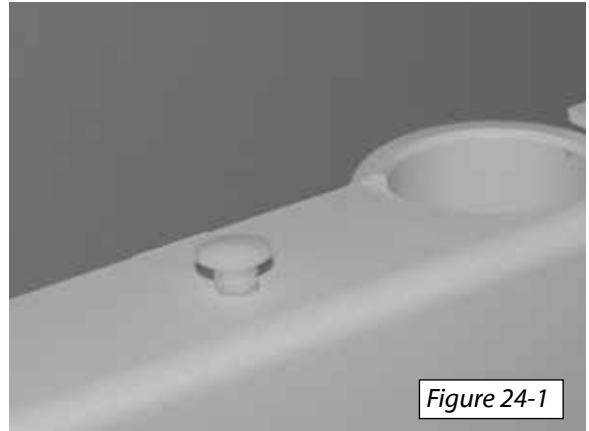

Figure 24-1
4. Position the face plate over the seat support so that the round cuts at the top surround the rooster and the other post hole. Secure it to the support with the two christmas tree plugs. *[Figure 24-1]*